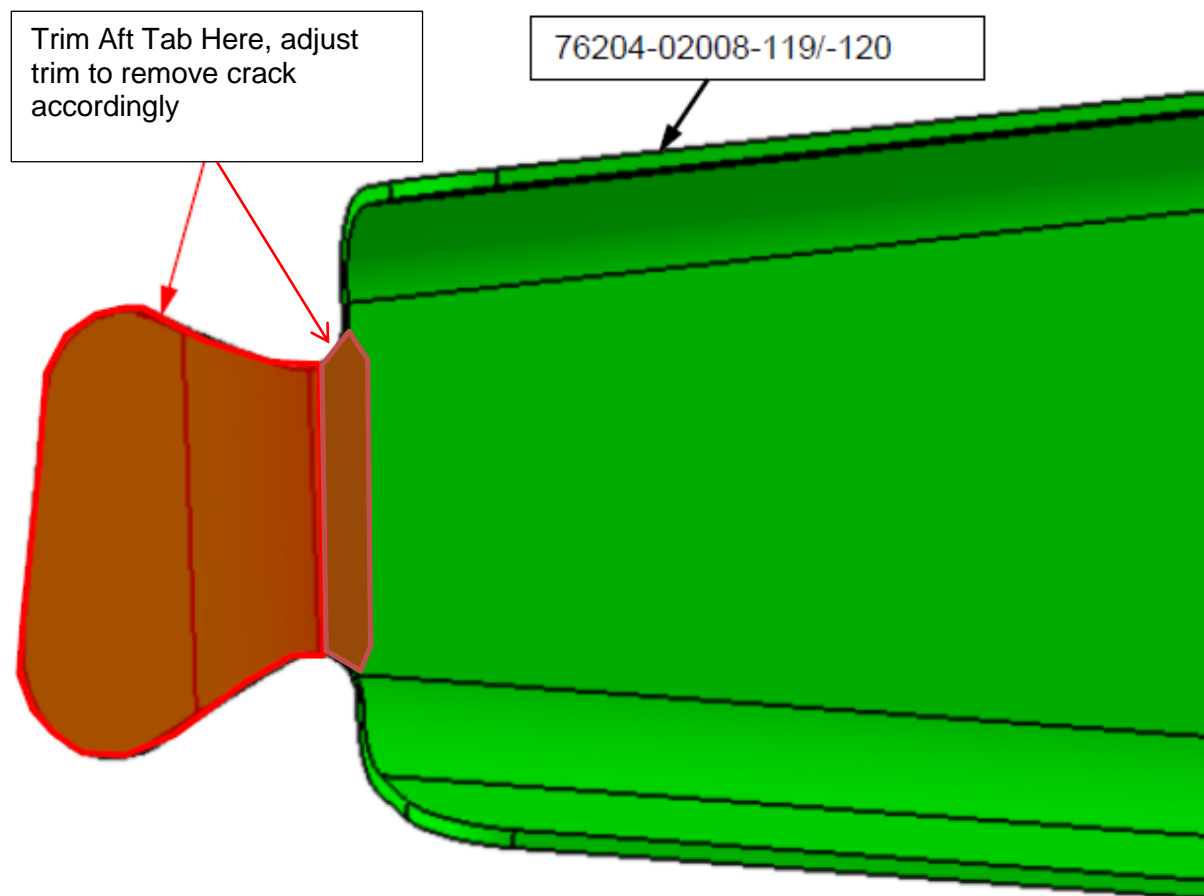

Figure 3 - Trim Aft Tab, Opp. RH side
3. Trim the aft tab of the 76204-02008-119 (LHS)/-120 (RHS) drag brace beam as shown in Figure 3. Break sharp edges.